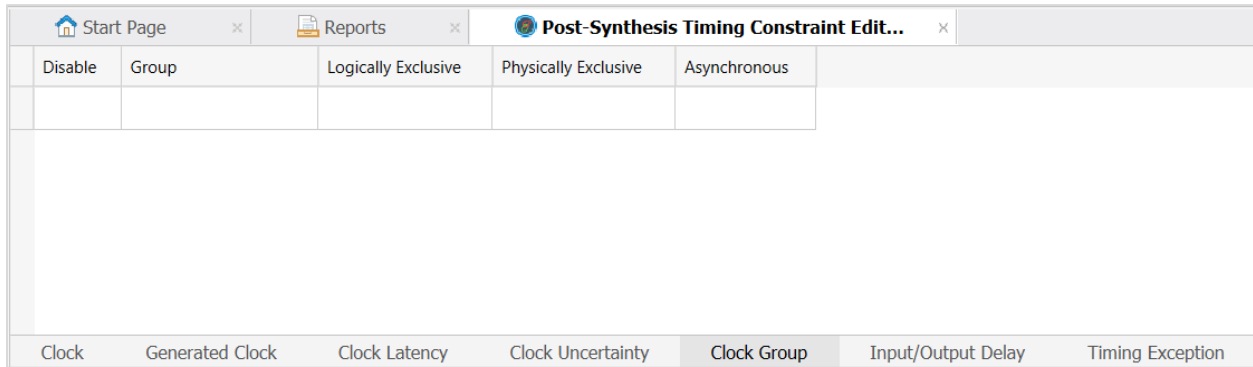

Figure 6.6 Post-Synthesis Timing Constraint Editor
- (1) Finish with synthesize design
- (2) Open Post-Synthesis Timing Constraint Editor as Figure 6.6